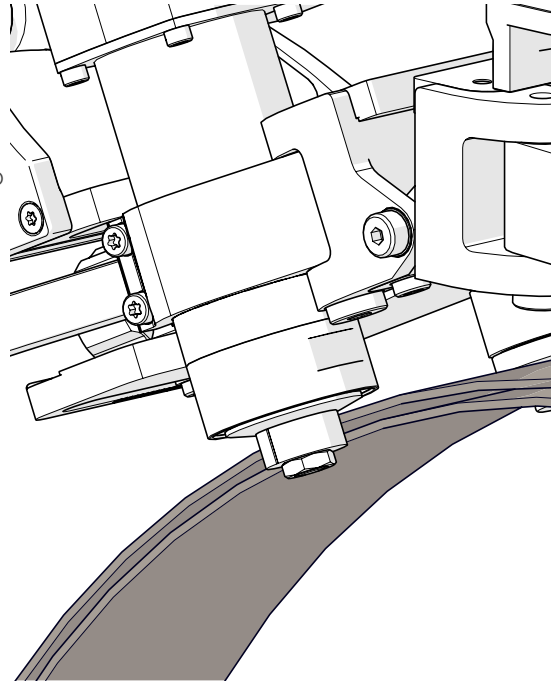

Fig. 191 - Ensure solid drive wheel contact with both bands
- ▶ Ensure that the drive wheel maintains solid contact with both bands in the overlap section to prevent the motor can from being positioned too high, which may cause the drive wheel to lose contact with the inner band (*Fig. 191*).
- ▶ Ensure that the motor can is not positioned too low to prevent it from scraping on the pipe. (*Fig. 191*).